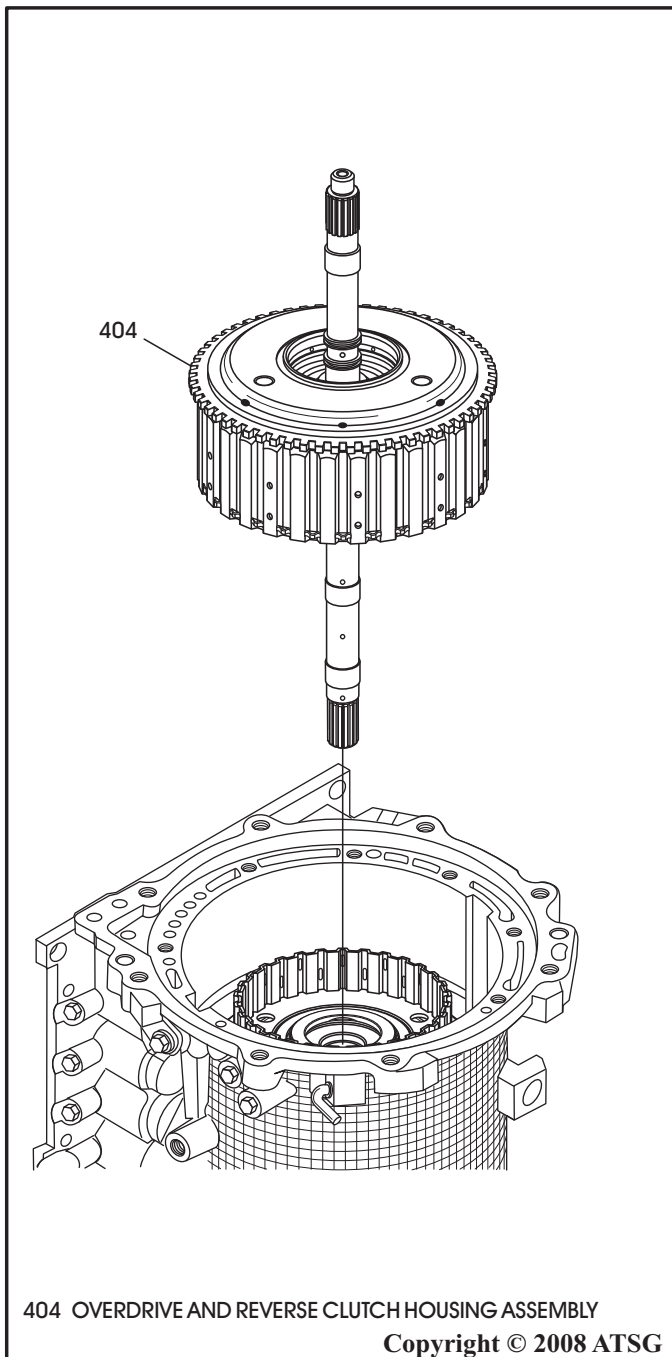

Figure 47
29. Remove overdrive and reverse clutch housing, as shown in Figure 47, by grasping and lifting straight up.